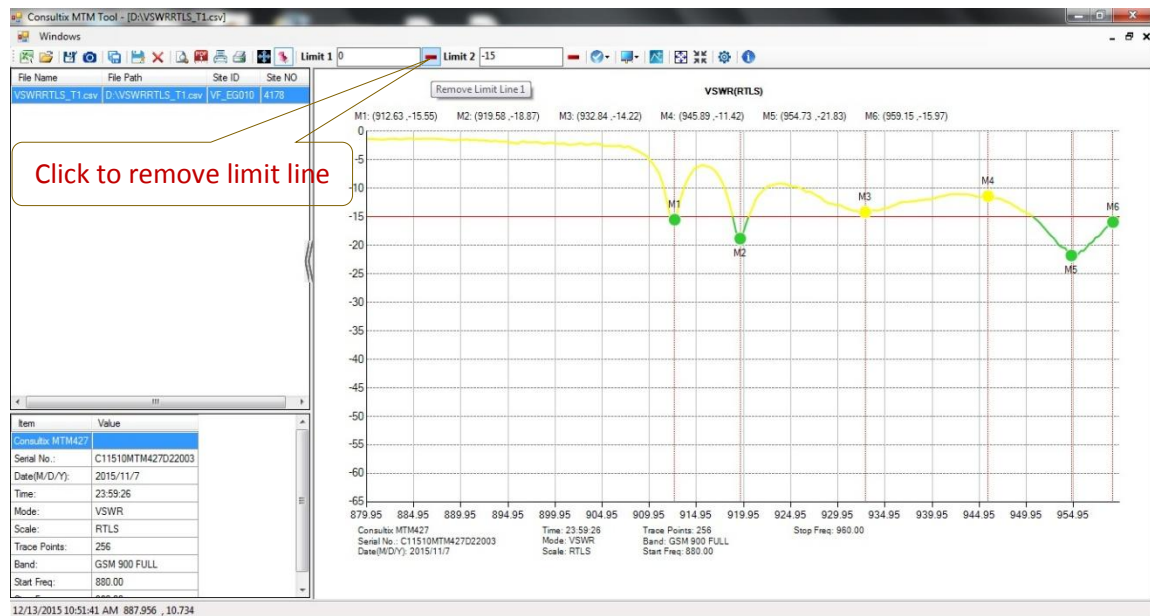

Figure 8, Removing Limit Lines
- 2- Remove limit lines: from **Function Toolbar**, click “**Remove Limit Line 1**” and/or “**Remove Limit Line 2**” as shown in figure 8